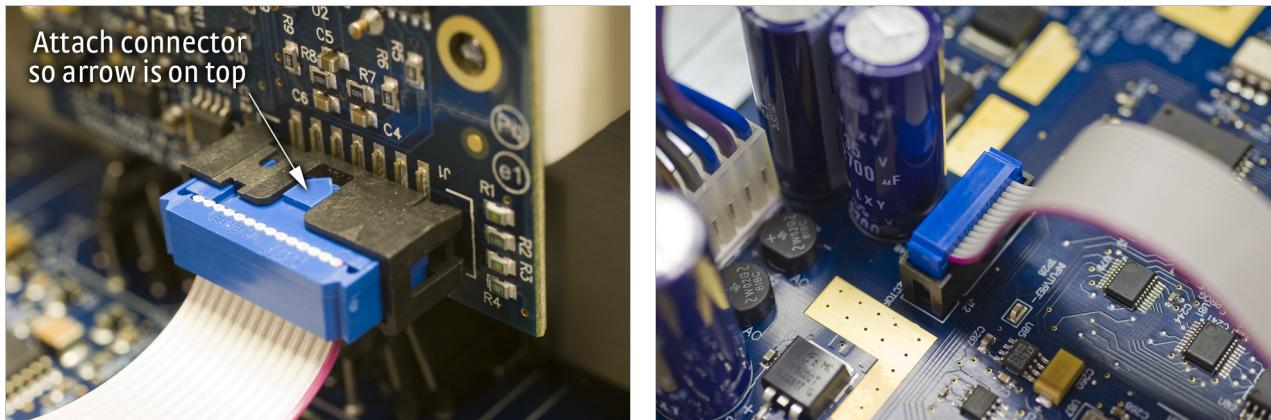

FIGURE 7-4 *Proper orientation of the ribbon cable connector plug*
8. Place the option card into its position in the rear panel from inside the instrument. Orient the card so that the 14-pin ribbon cable connector is toward the bottom of the instrument, closest to the main circuit board (FIGURE 7-4).
12. *This step is not applicable to the 3062 option card*. Insert the 14-pin ribbon cable connector plug into the socket on the option board. Orient the ribbon cable connector plug so that the arrow nub slides into the plug slot, and the ribbon cable exits downward (FIGURE 7-4).